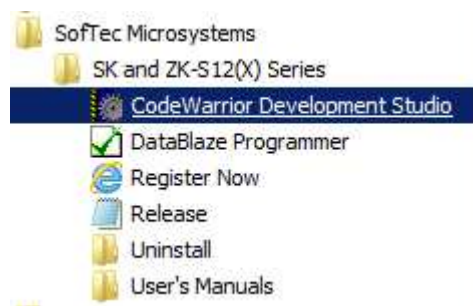

Figure 1.7 Launching CodeWarrior IDE from the start menu
- From the Start menu follow the path: Start → All Programs → SofTec Microsystems → SK and ZK-S12(X) Series → CodeWarrior Development Studio, as in Figure 1.7
- Alternatively follow the drive path to the Start menu shortcut: "C:\ProgramData\Microsoft\Windows\Start Menu\Programs\SofTec Microsystems\SK and ZK-S12(X) Series\CodeWarrior Development Studio"